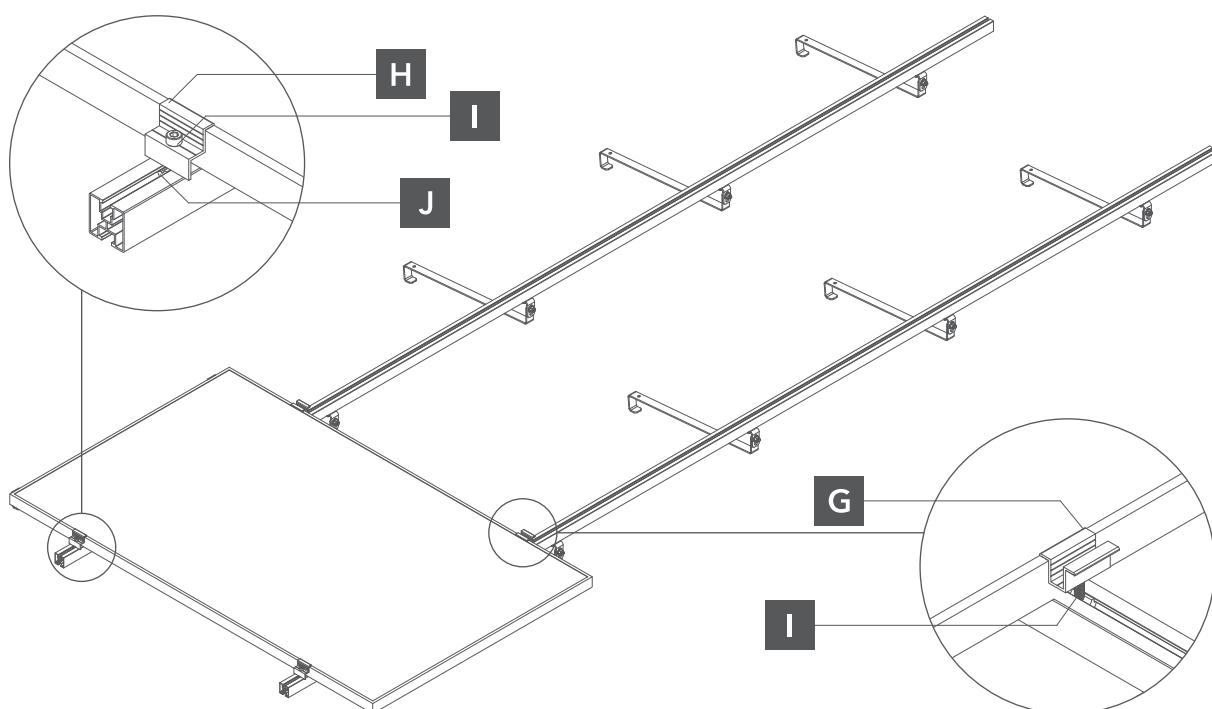

Fig. 7. attachment of the module to the mounting rail.
- 5** On the mounting rails we put the first outer photovoltaic module and we fix the end clamps by fastening them with allen screws M8 and slot nut M8. Then we install the middle clamps without fixing them. After the next modules are installed, the middle clamps can be fastened. This process should be repeated until all modules are mounted in a row (Fig. 7).